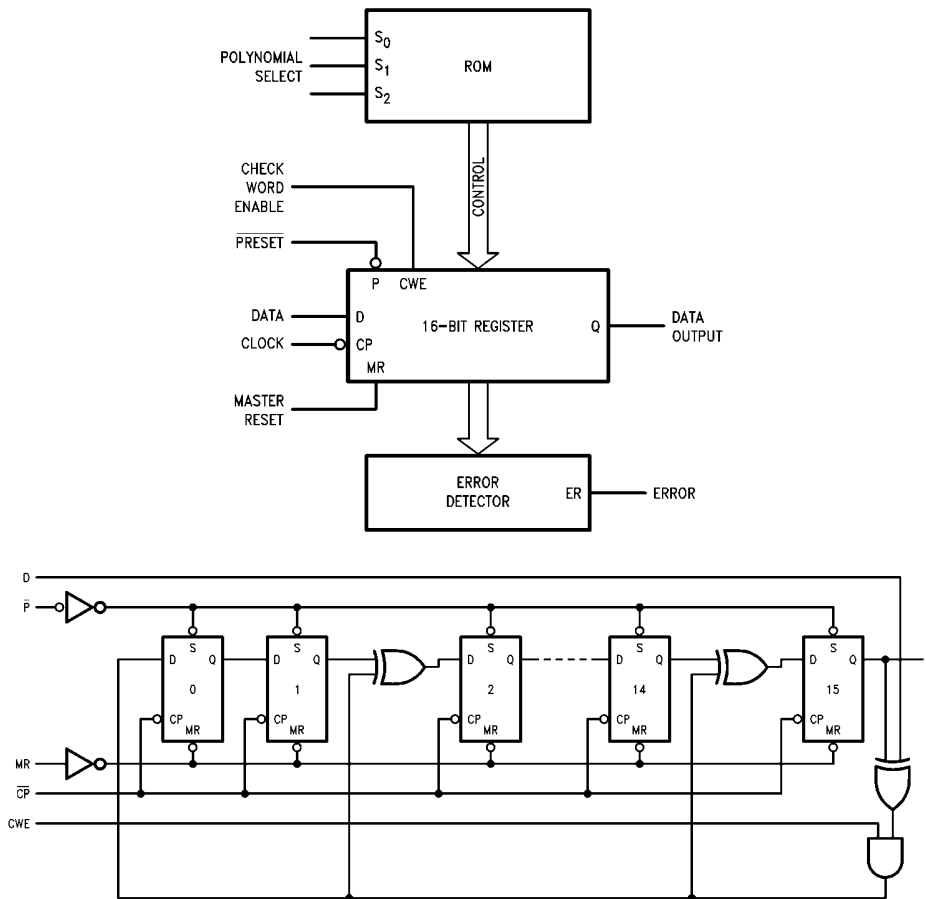
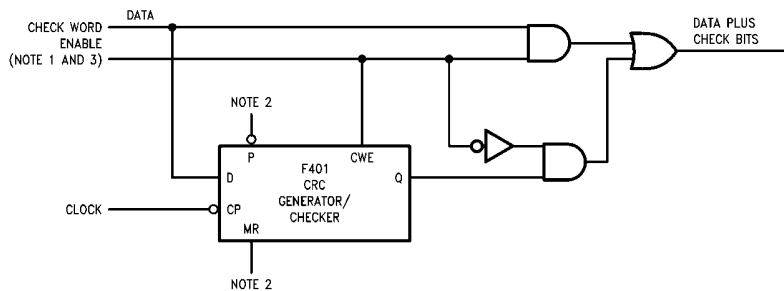

FIGURE 1. Equivalent Circuit for $X^{16} + X^{15} + X^2 + 1$
FIGURE 2. Check Word Generation
transition of the Clock input (\overline{CP}). This data is gated with the most significant output (Q) of the register, and controls the Exclusive OR gates Figure 1. The Check Word Enable (CWE) must be held HIGH while the data is being entered. After the last data bit is entered, the CWE is brought LOW and the check bits are shifted out of the register and appended to the data bits using external gating Figure 2.